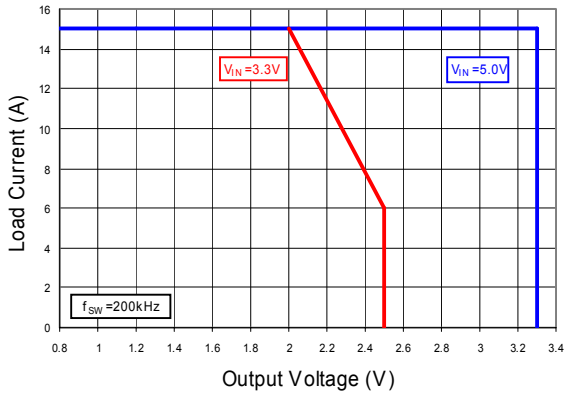
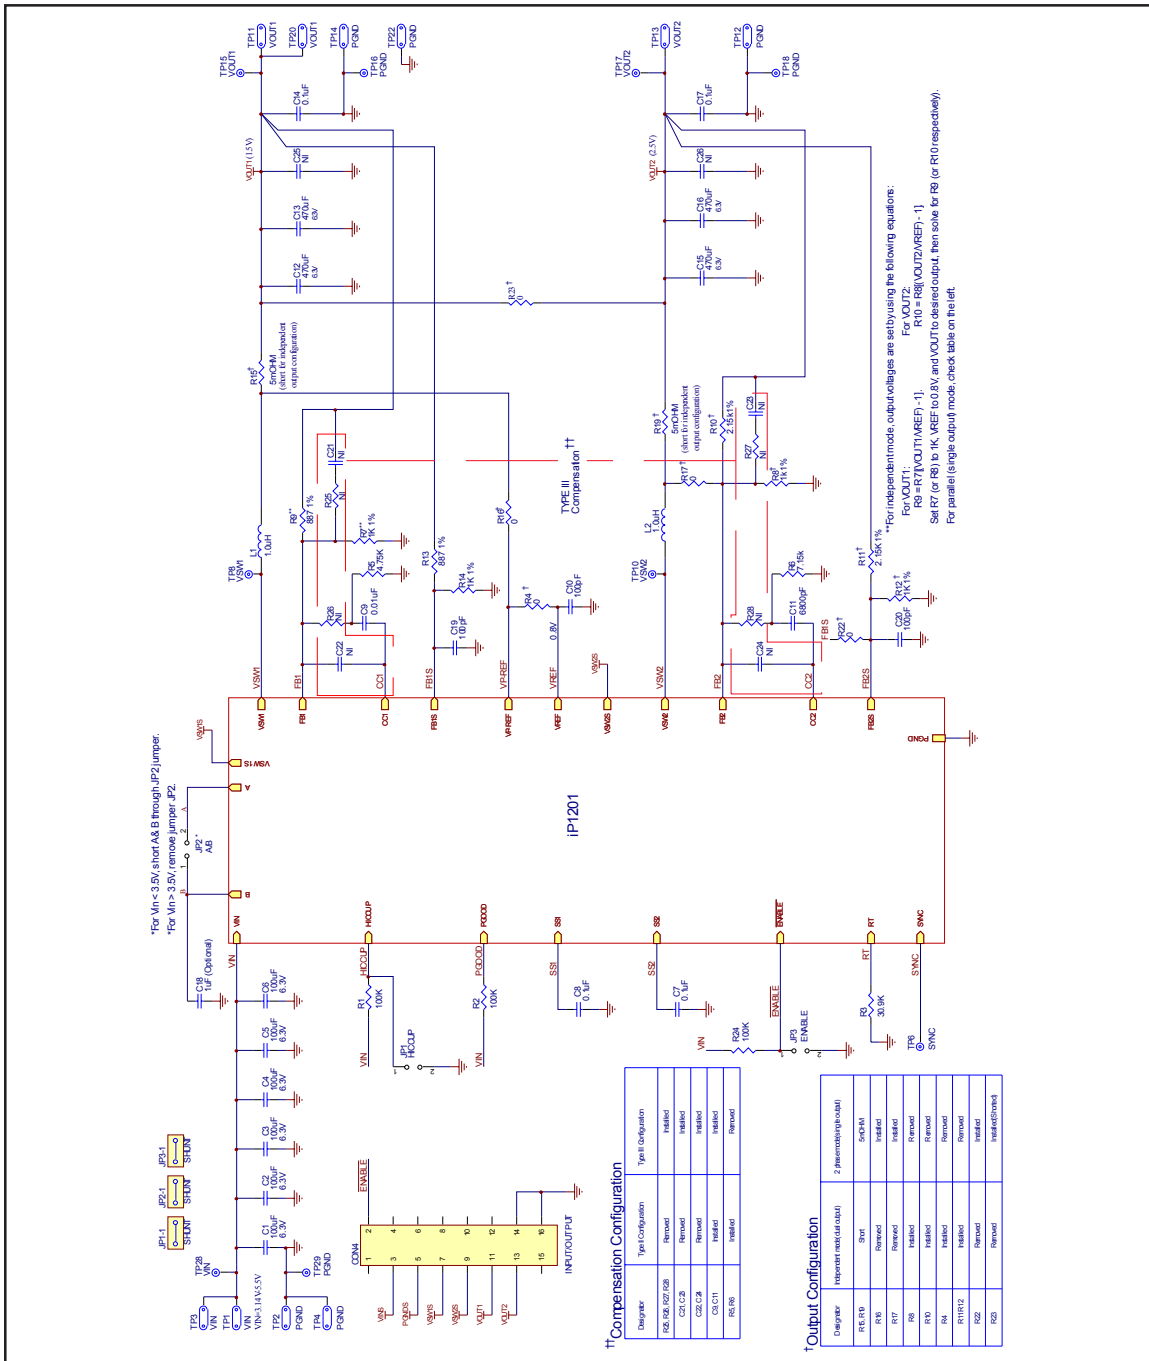

Fig. 1: Recommended Operating Area
Fig. 6 - Reference Design Schematic
The iP1201 is fully optimized solution for medium current synchronous buck applications requiring up to 15A or 30A. In this document, Fig. 1, 2, 3 and 4 are provided to enable engineers to easily evaluate the iP1201 in an independent and parallel configuration that is capable of providing up to 15A per phase with double-sided heat sinking. Fig. 6, 7 and 8 and the complete bill of materials in Table 1 are provided as a reference design to enable engineers to very quickly and easily design a dual phase converter. In order to optimize this design to your specific requirements, refer to the iP1201 data sheet for guidelines on external component selection and user adjustable limits and specifications. Custom designs may require layout modifications.
- For paralleled single output operation see Fig. 6 for configuration table in reference design schematic.
Output current: Up to 15A (see recommended operating area Fig. 1, 2 and 3). The maximum current should be limited to 11.5A if the PCB is the only heat sink.